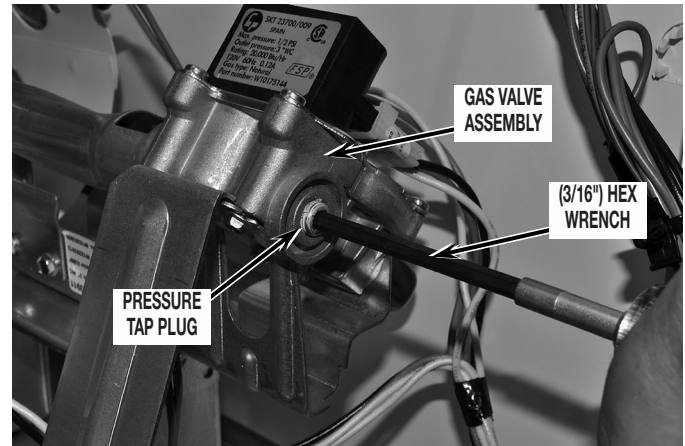

FIGURE 1
1. Remove pressure tap plug from valve body using a 3/16" hex wrench. See Figure 1.